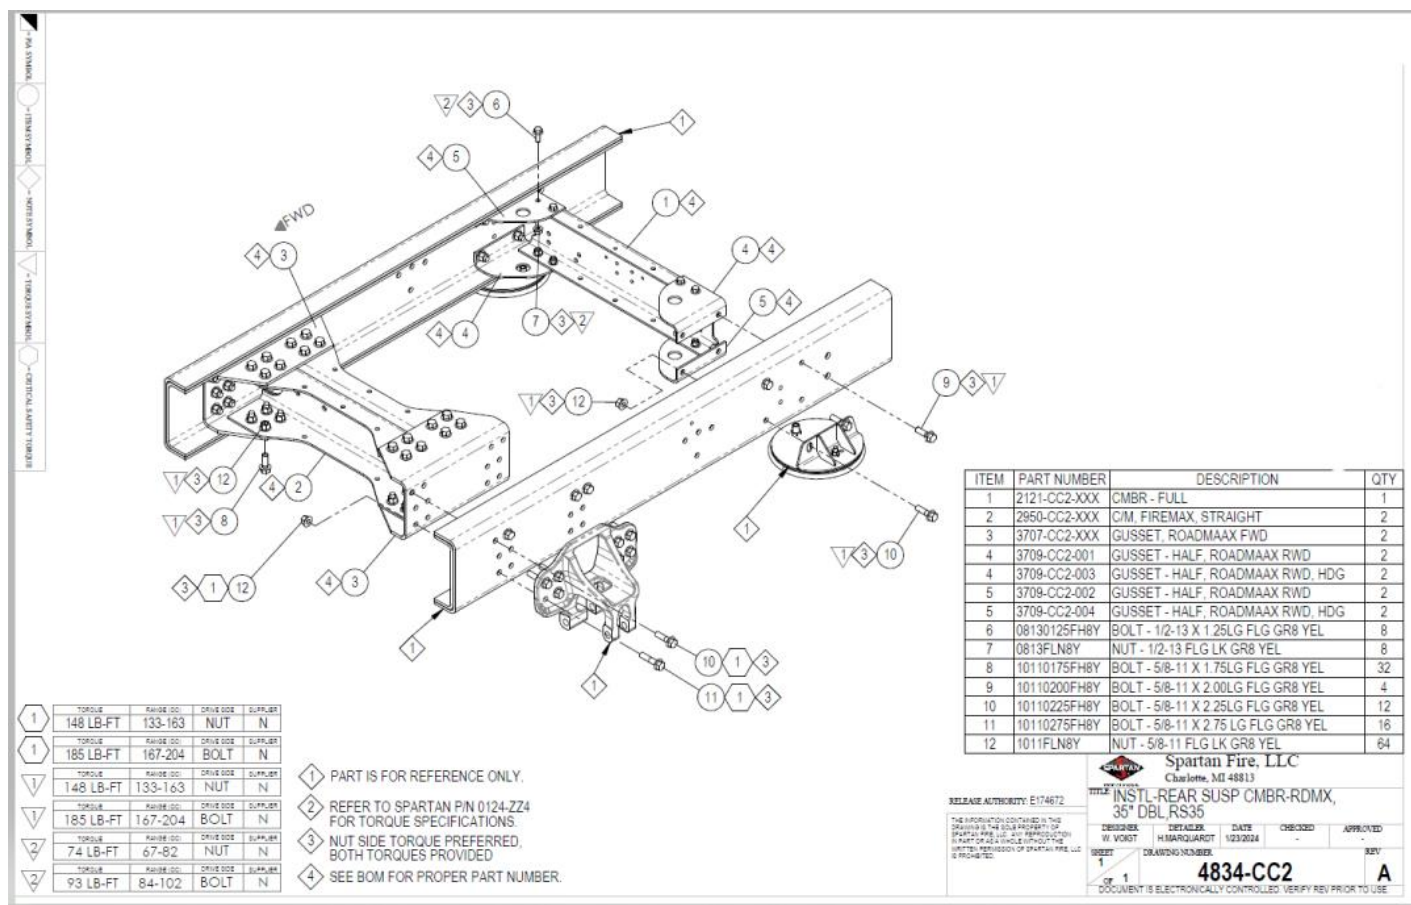

Figure 3.1
- 6) Torque fasteners to specifications listed in Figure 3.1